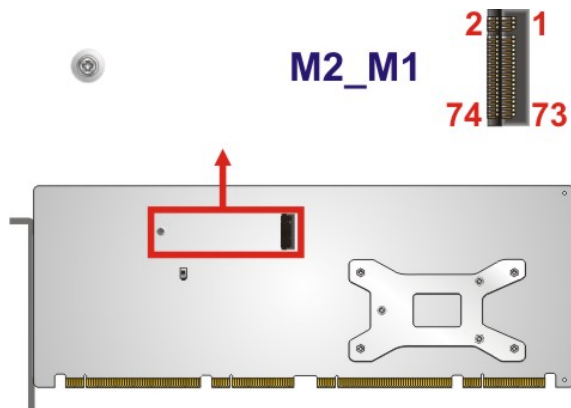

Figure 3-16: M.2 2280 Slot Location
- CN Location:** See **Figure 3-16**